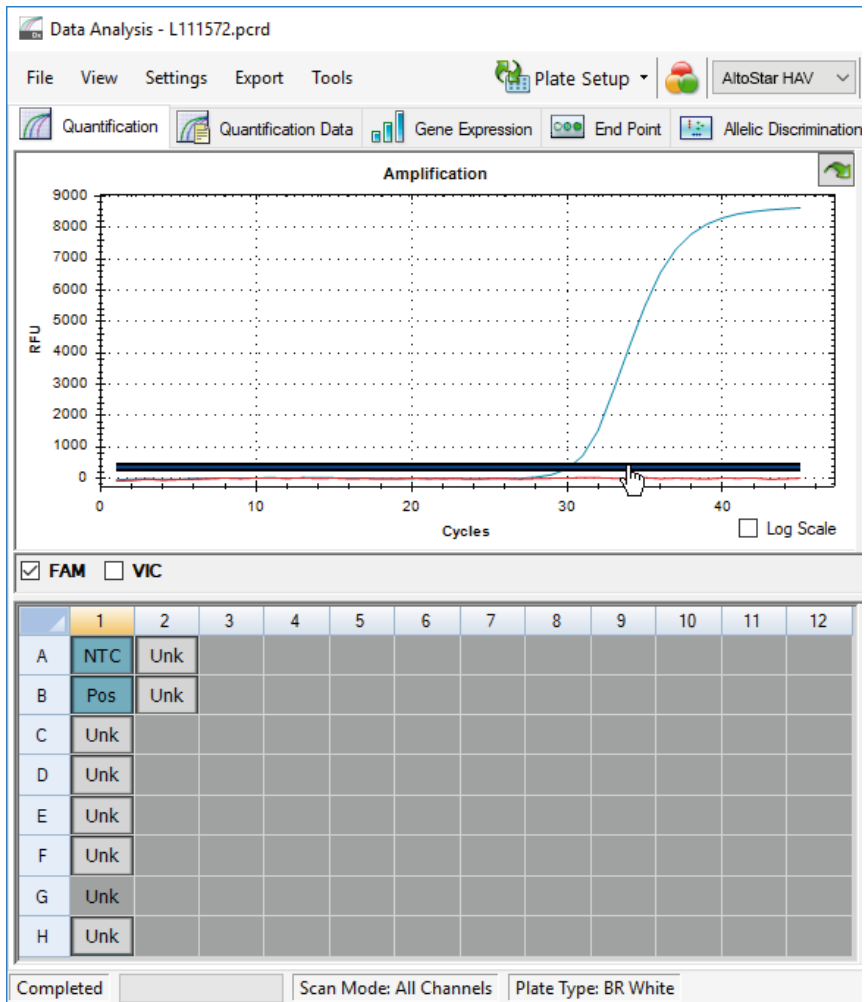

Figure 10: Data Analysis window: setting the FAM™ threshold
5. At the left side of the Data Analysis window untick the **VIC** checkbox and tick the **FAM** checkbox for the detection channel of the HAV target (see figure 10).
6. Select only the wells containing the NTC and the PC in the plate view of the Data Analysis window (see figure 10).
7. Drag the threshold well above the signal of the NTC into the exponential area of the PC signal (see figure 10).